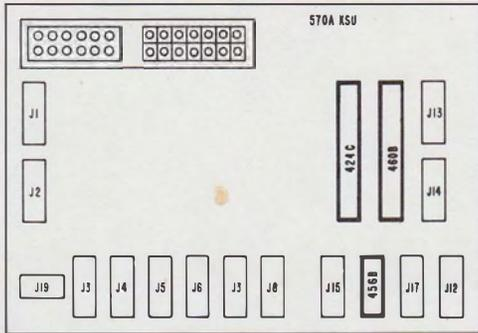

Fig. 31—Location of 424C, 456B, and 460B KTUs, 2-Path Intercom
4.24 Intercom is factory-wired, requiring the 424C (Fig. 13), 456B (Fig. 18), and 460B (Fig. 20) KTUs furnished with the 570A KSU. See Fig. 31 for KTU locations in the KSU. The intercom code of a station is determined by the column on connecting blocks 3, 4, or 5 on which the station cable is terminated. See 3.05(8) and Fig. 26.